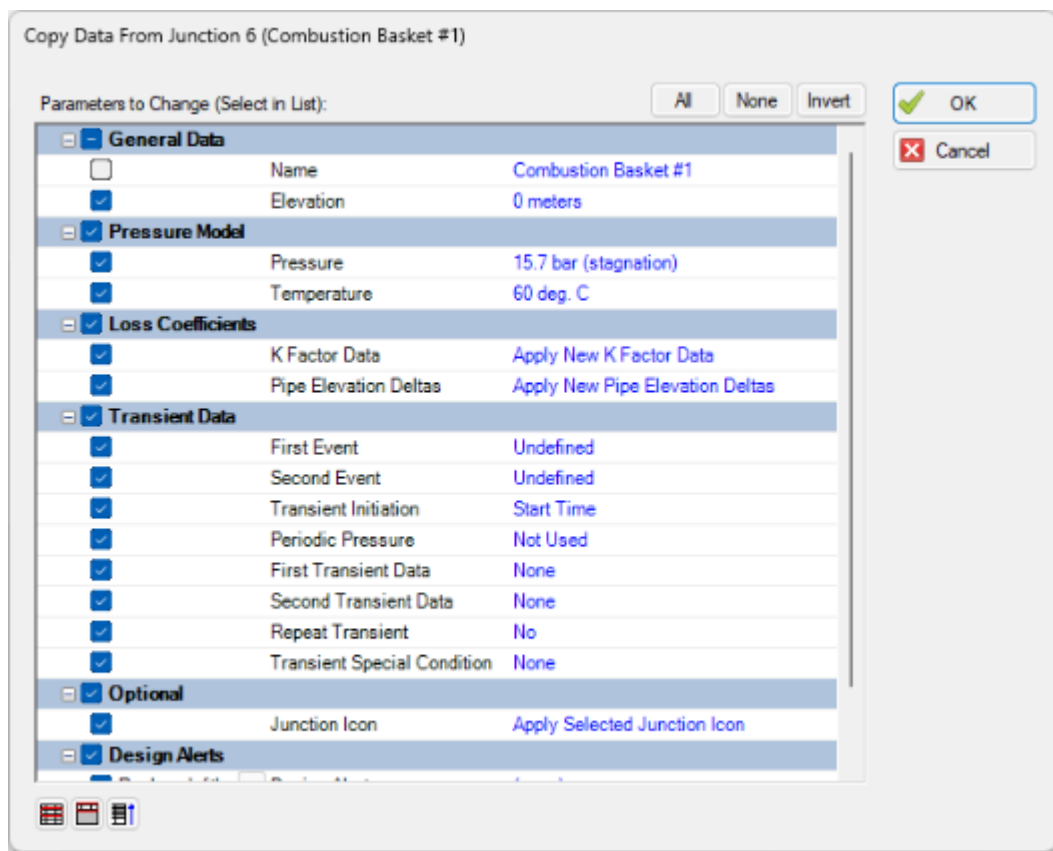

Figure 3.4 The Copy Data From Junction window
- ▶ **Un-check the Name parameter, as shown in Figure 3.4.**